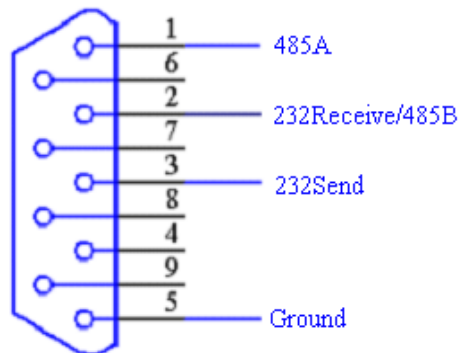

Figure 7-2 9-pin D-sub socket
(1) 9-pin D-sub socket. The definition of pins is as shown in Figure 7-2:
(2) Definition of pins: